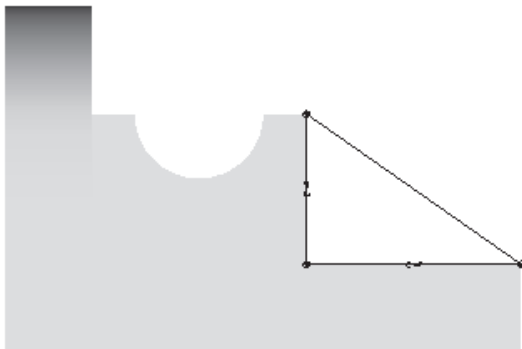

Figure 4-76 Sketch and constraints for the last feature
1. Draw the section sketch using various sketcher tools as shown in Figure 4-76.
The sketch is dimensioned automatically and some weak dimensions are assigned to it. You can add the required constraints to align the lines and points in the sketch with the other features as shown in Figure 4-76. In the figure, the constraint symbol displayed on the line indicates that the edges of the adjacent features are used to close the section.